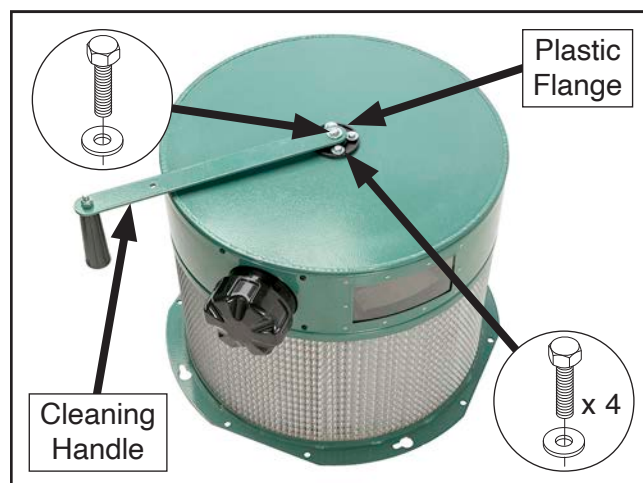

Figure 56. Location of filter cleaning arm and plastic flange fasteners.
6. Remove filter assembly, then turn upside down so filter drum is facing up (see **Figure 56**).
7. Remove cleaning handle from filter (see **Figure 56**). Keep fasteners, they will be used in later steps.
8. Remove (4) hex bolts, flat washers, and plastic flange (see **Figure 56**).